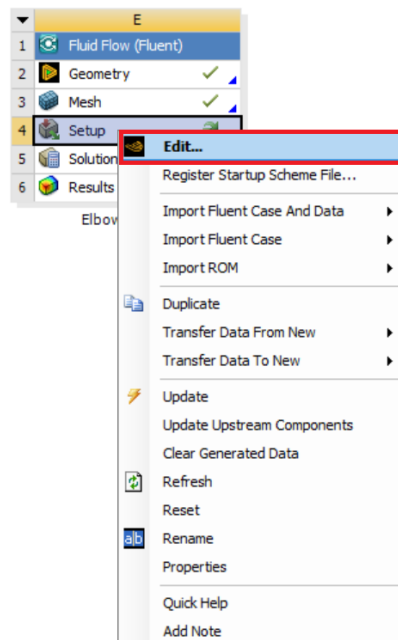

Figure 35: Starting ANSYS Setup.
- In the main window, position the mouse, in the WB project scheme, on the *Setup* cell by clicking with the right button and select *Edit*, as in figure 35.